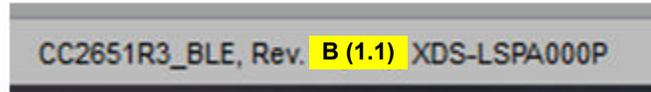

Figure 2-2. Device Identification with SmartRF™ Studio
- When connecting to a CC2651R3SIPA device, the version number is shown in the lower-left corner (see Figure 2-2).